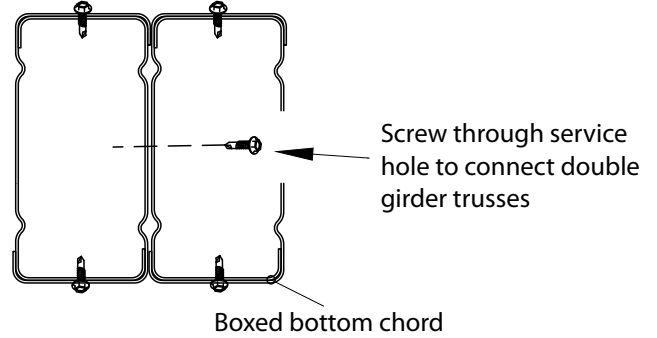
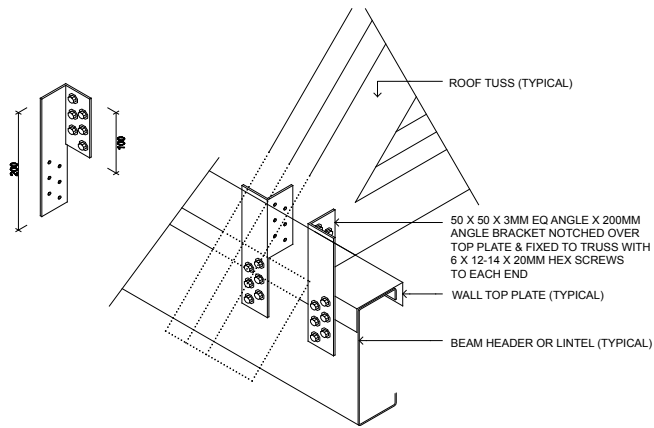

Figure 11.13) Connection between double girder trusses
Figure 11.14 Girder truss to wall top plate connection using angle brackets
STEP 8: A single girder truss can be installed using either a 25 x 5mm strap tie down or a 50 x 50 x 3mm angle tie down as is shown in Fig 11.13) or 11.14. Install the second ply girder truss (if applicable) with the toes of both trusses facing each other and fix it to the brackets as shown in Fig 11.14 or 11.15. Install 1x12-14x20 Hex Head screws through EVERY service hole provided on the bottom chord to connect the two trusses together as shown in Fig 11.14 & 11.15.